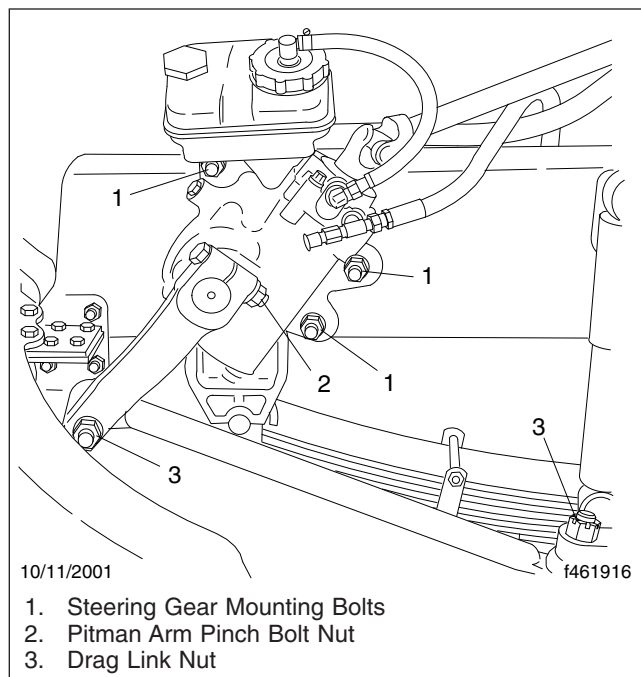

Fig. 20.12, Integral Steering Gear Fasteners
- 6.1 Inspect tie rods, steering arms, and the drag link for signs of looseness (i.e., shiny spots or rust tracks). See Fig. 20.12.